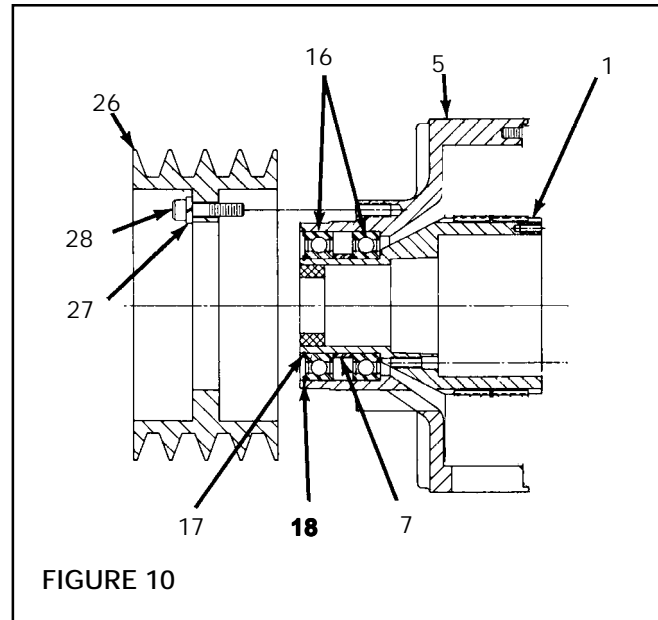

FIGURE 10
4. Remove Cap Screws (Item 28), and Lockwashers (Item 27), and Sheave (Item 26) in mounted on the "DPC" Clutch (See Fig. 10).
6. Remove Retaining Ring (Item 17) (See Fig. 10).
7. Fully supporting the Housing (Item 5); press the Hub (Item 1), out of the Housing and Bearings. (See Fig. 10).
8. Remove Retaining Ring (Item 18) (See Fig. 10).
9. Fully supporting the Housing (Item 5); push the Bearing (Item 16), and Spacer (Item 17), out of the Housing (See Fig. 10)
11. Press new Bearings (Item 16), and Spacer (Item 7) into the Housing (Item 5) (See Fig. 10).
12. Install Retaining Ring (Item 18) (See Fig. 10).
14. Install Retaining Ring (Item 17) (See Fig. 10).